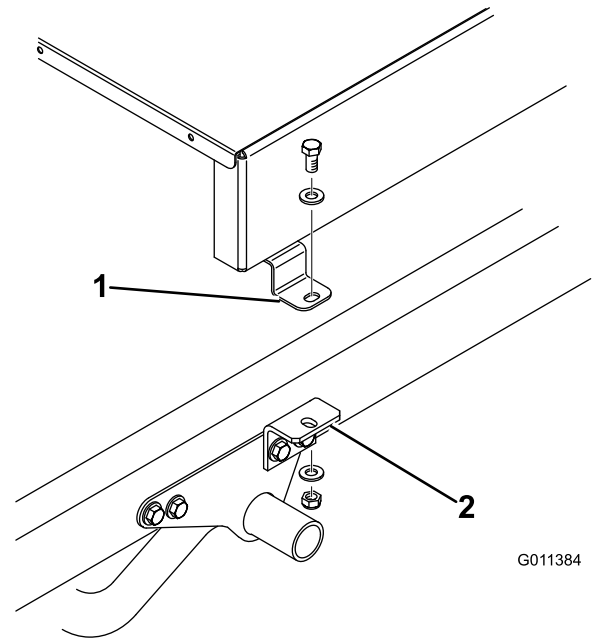
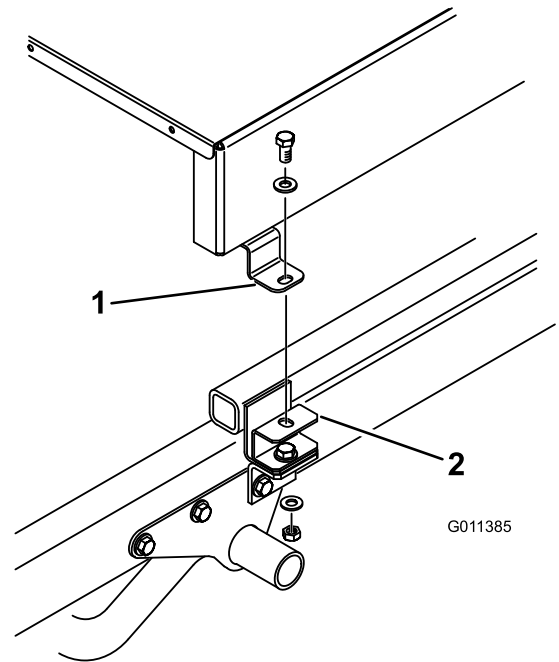

Figure 9
Figure 10
- 7. Loosely secure the top of each attachment bracket (Figure 9) or spacer mount (Figure 10) to the mounting tab on each side of the topdresser with a 1/2 x 1 inch cap screw, 2 flat washers, and locknuts. Tighten all fasteners.